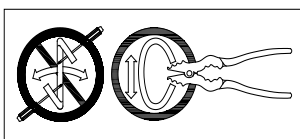

Fig. 3
CONNECTING THE WIRES (Fig.3)
12. At this point, connect the electrical wires as shown in figure 3, making sure that all wire connectors are secured. If your outlet has a ground wire (green or bare copper), connect the ground wires from the hanger ball and mounting plate to it. Otherwise, connect the ground wire from the hanger ball directly to the mounting plate ground wire and secure with the wire connectors provided. After wires are connected, tuck them carefully into the ceiling junction box.